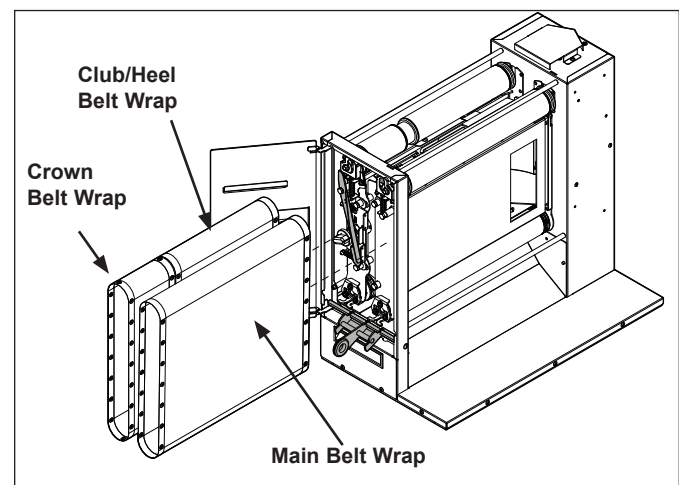

Figure 9. Remove and Discard the Belts
11. Remove and discard the Front Belt (the recommendation is to cut it in half so it cannot be used again). See Figure 9.
12. Remove and discard the Rear Belts (the recommendation is to cut them in half so they cannot be used again). See Figure 9.